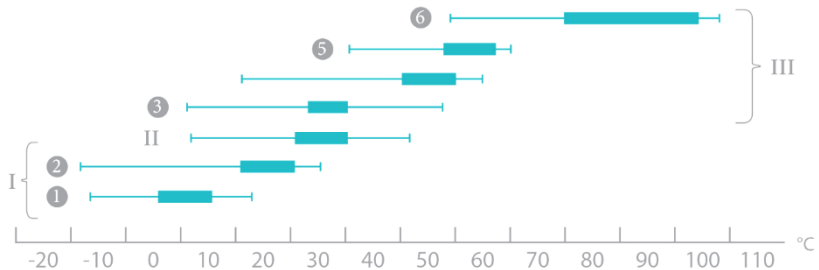

Figure 4. Temperature boarders and optimal growth zones of prokaryotes and their classification.
- 8.1 **Temperature distribution specifics (psychrophiles, mesophiles, thermophiles).** The optimal growth temperatures of microorganisms are divided in three principal groups (see fig. 4):
- Psychrophiles (I) – obligate (1) and facultative (2);
- Mesophiles (II);
- Thermophiles (III) – thermotolerant (3), facultative (4), obligate (5) and extremophile (6).